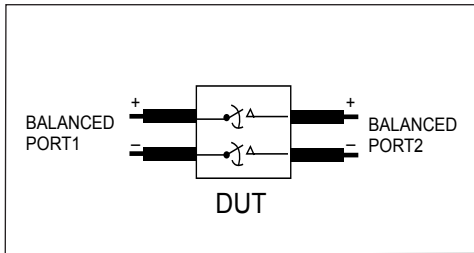

Fig 1: Diff. Insertion Loss and Return Test Circuit
2. Refer to figure 1 for test setup